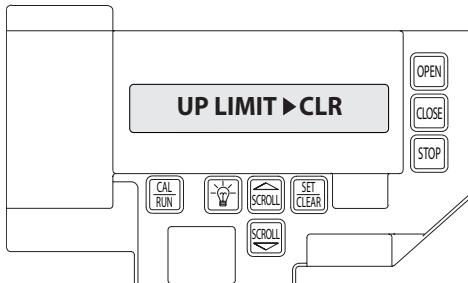

Figure 7
- 2) Press SCROLL  until display reads "UP LIMIT>CLR" or "DOWN LIMIT>CLR" **Figure 7**.